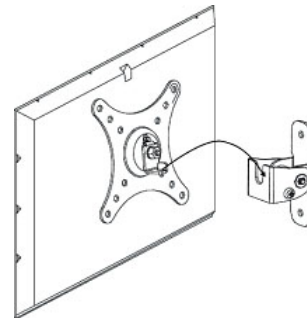

Figure 4
- 1 Hang the display plate onto the top of the wall plate and slip it into the wall plate as shown (Figure 4).